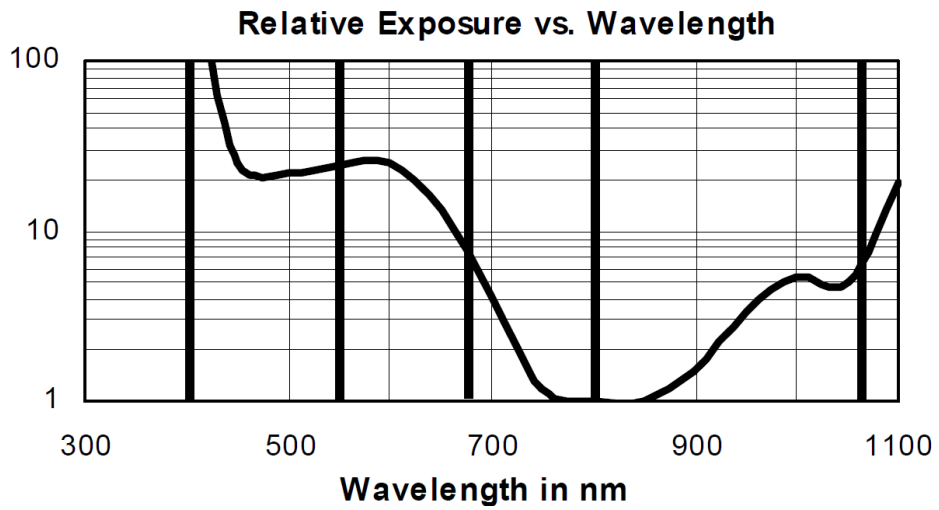

Fig. 1.3: Graphs for WinCamD-UCD12. Other sensors will be within a factor of 2.
If Power (W) > 2.5 × beam diameter (mm) or Power > 10 W the ND filter may be damaged. However, the limit is lower for pulsed lasers (especially nanosecond and femtosecond lasers). Use Fig. 1.3 to estimate for wavelengths other than those shown. The variation is due to a combination of detector response versus wavelength and ND 4.0 filter actual transmission versus wavelength.
If Power (W) > $2.5 \times$ beam diameter (mm) or Power > 10 W the ND filter may be damaged. The limit is lower for pulsed lasers, especially nanosecond and femtosecond lasers. Use Fig. 1.3 to estimate for wavelengths other than those shown. The variation is due to a combination of detector responsiveness versus wavelength and ND 4.0 filter actual transmission versus wavelength.
Measure your beam with a calibrated power meter before letting power fall on the head. Use the graph in Fig. 1.3, as well as Table 1.10. The following head damage limits always apply: